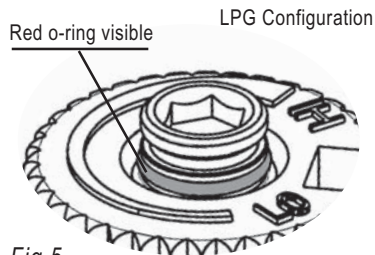

Fig.5
- 15) Verify that if the conversion is from NG to LPG, the screw must be re-assembled with the red o-ring visible (Fig. 5).